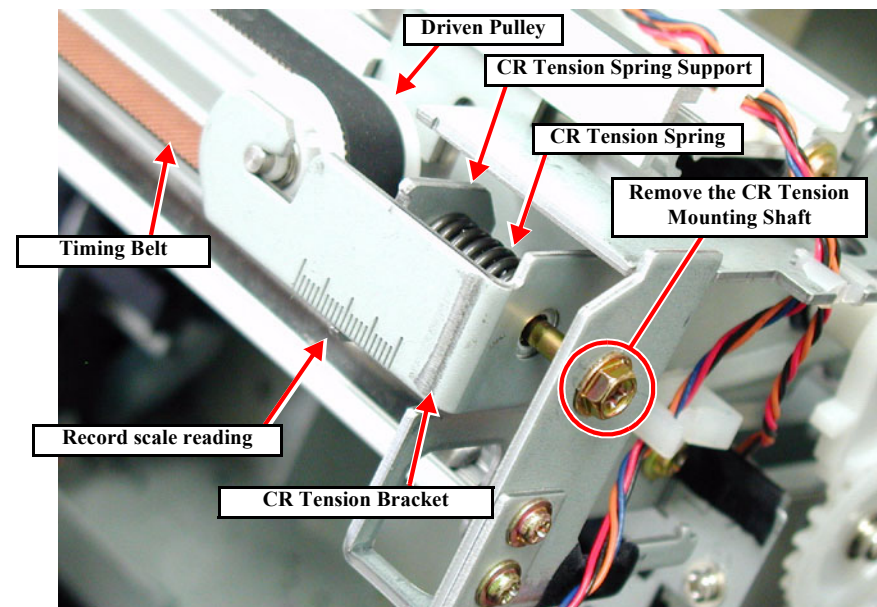

Figure 4-42. Loosening the CR Timing Belt
However, if the indicator was at a off-center position before assembly, adjust the indicator to the same off-center position. (See Figure 4-42)
6. On the R Side Frame side, remove the CR Tension Mounting Shaft and CR Tension Spring and the CR Tension Spring Support. (See Figure 4-42)